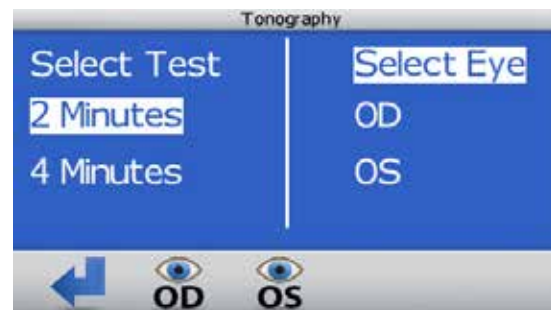

Figure 7-3, OS/OD
4. Touch the OD or the OS icon to select either the right eye or left eye, respectively. Refer to Figure 7-3.